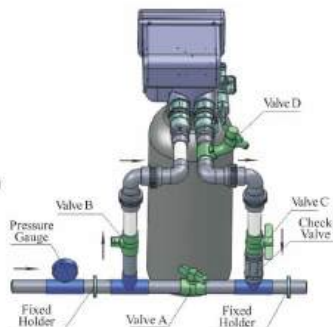

Figure1-3
④Pipeline connection
a.As Figure1-3 shows, install a pressure gauge in water inlet.